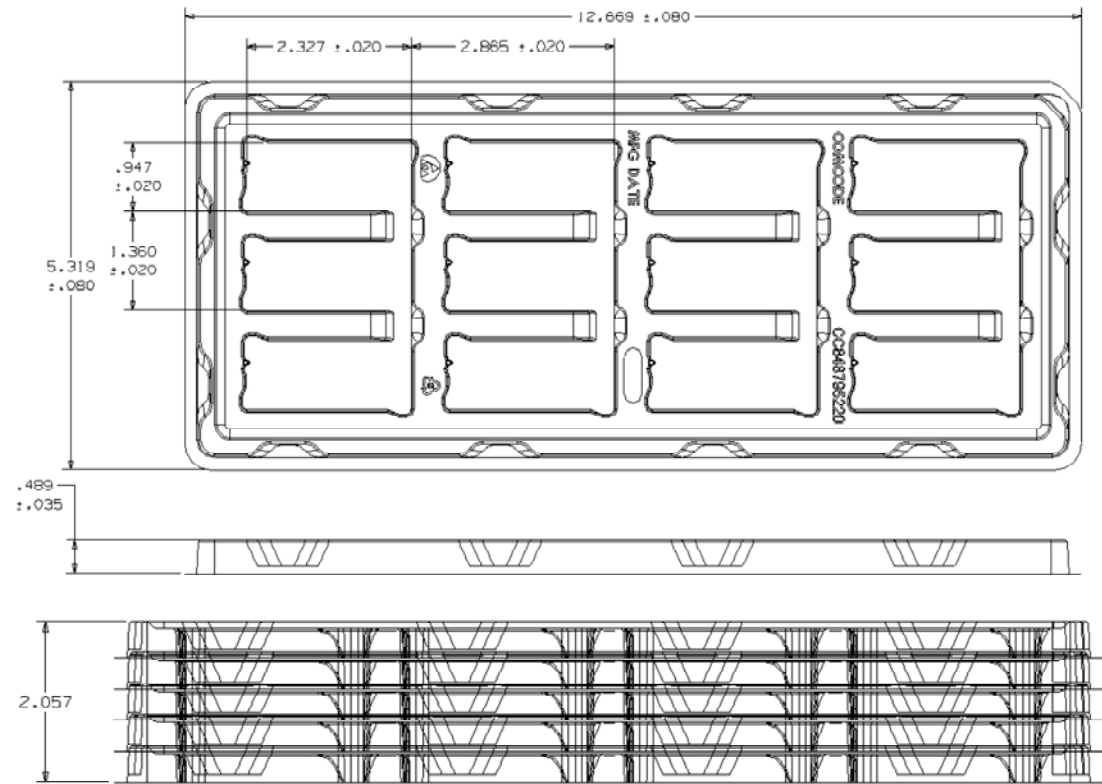

Figure 24. Surface Mount Packaging Tray.
The surface mount versions of the ESTW025A0F modules (suffix –S) are supplied as standard in the plastic tray shown in Figure 24. The tray has external dimensions of 135.1mm(W) x 321.8mm(L) x 12.42mm(H) or 5.319in(W) x 12.669in(L) x 0.489in(H).